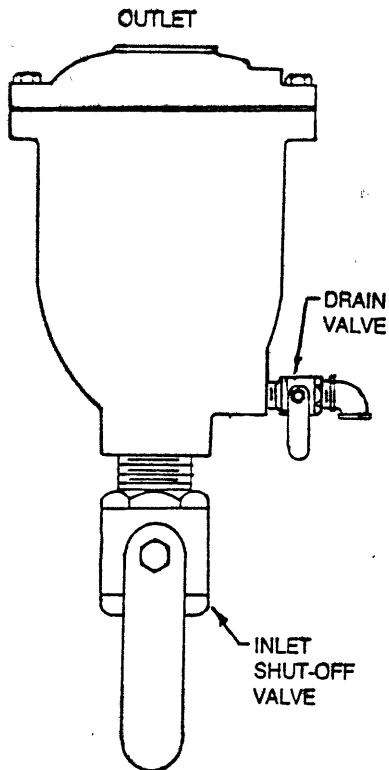

FIGURE 3. INSPECTION PIPING
**INSPECTION:** Periodic inspection to verify operation can be performed. A manual drain valve can be installed in the lower drain plug to perform this operation as shown in Figure 3.